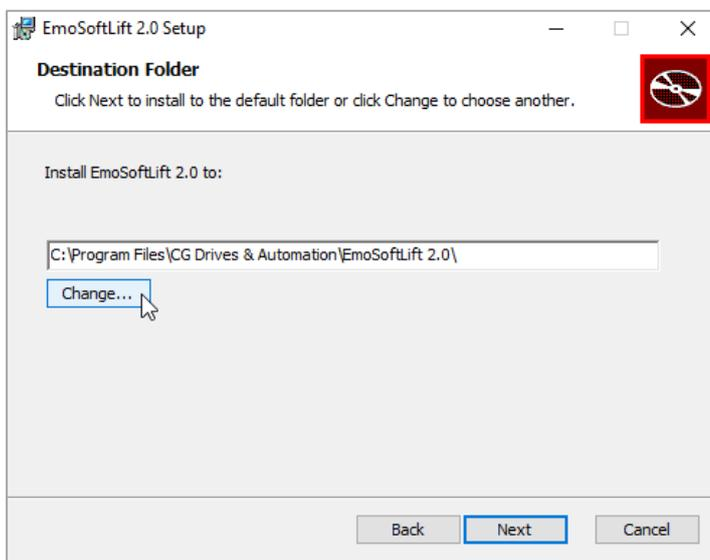

Figure 1: Choose installation folder
- 2.1. Choose your preferred location for the installation of the application on your local drive (C :\) and click “**Continue**” (Figure 1).